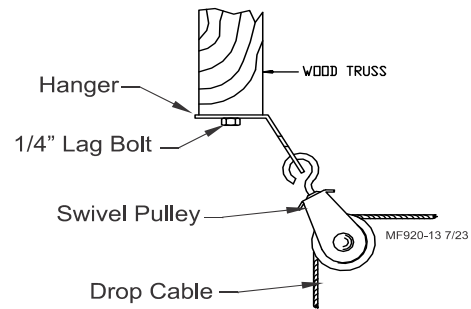

Figure 16. Pulley Installation
6. After securing the Ceiling Hook to the truss, slide the hook of a Swivel Pulley into the slot, as shown in Figure 16.